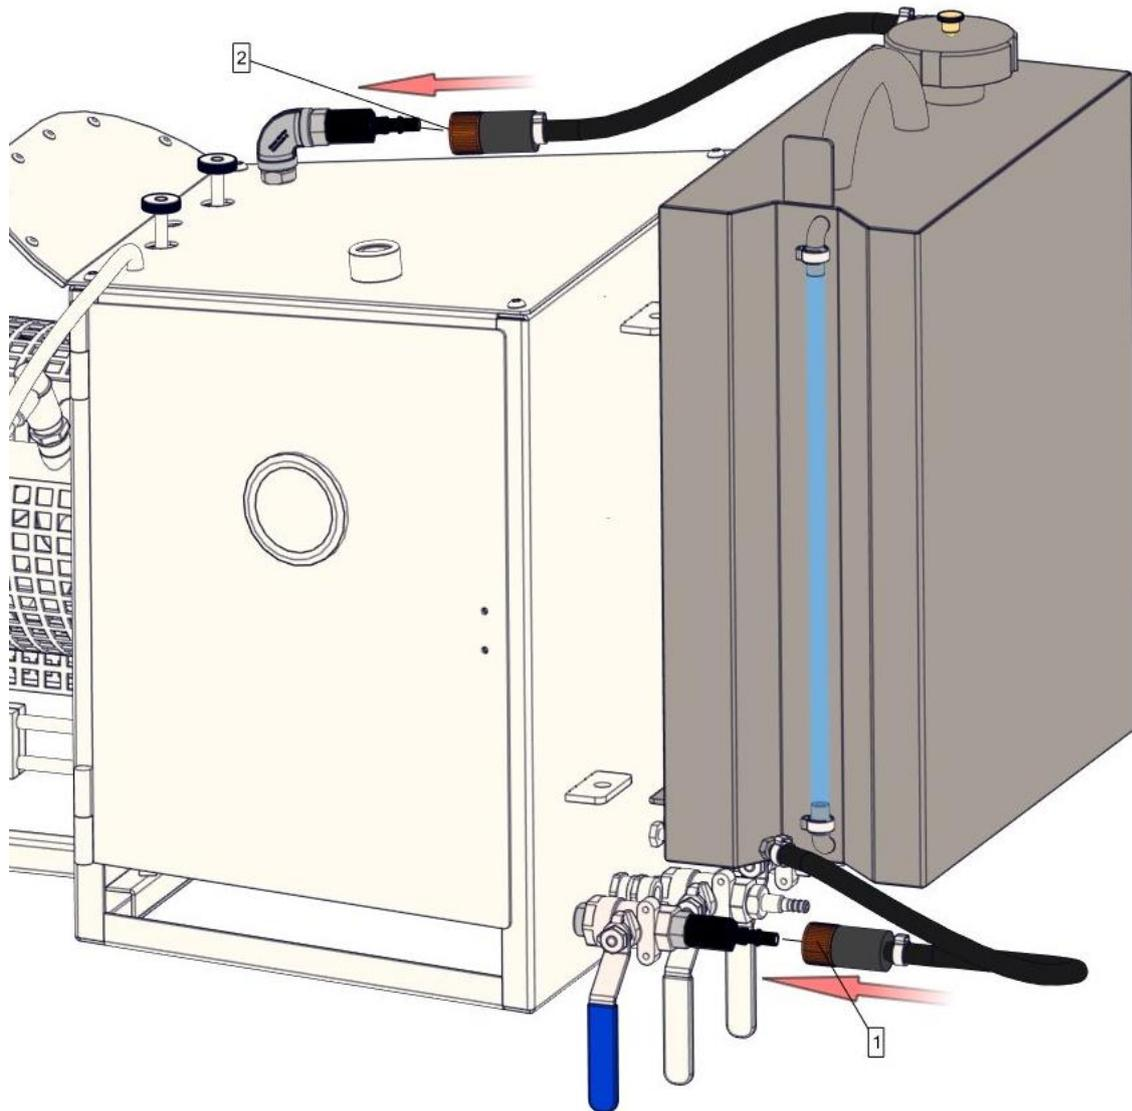

Figure 3
3. Fix and secure the filled petrol tank to the machine (Figure 2) and connect the petrol hose (Figure 3 and Figure 4). Make sure that the petrol tank is at least $\frac{3}{4}$ filled with petrol.
6. With a longer pause, close the petrol valve (Figure 3).
Click the lower petrol hose coupling on the machines petrol supply(Figure 3 no.1). Click the upper petrol hose coupling on the venting clutch top of the machine(Figure 1 no. 2). The quick-release coupling is self-closing. In the uncoupled state no fuel can leak from the connector. In the figure the petrol valve is **closed**.
5. If the petrol tank is full, check that the prescribed connection is well sealed. Immediately remove any dust and dirt on the coupling or disruptions to the petrol supply can occur. A loose hose can also cause a FIRE HAZARD (Figure 3 and Figure 4).